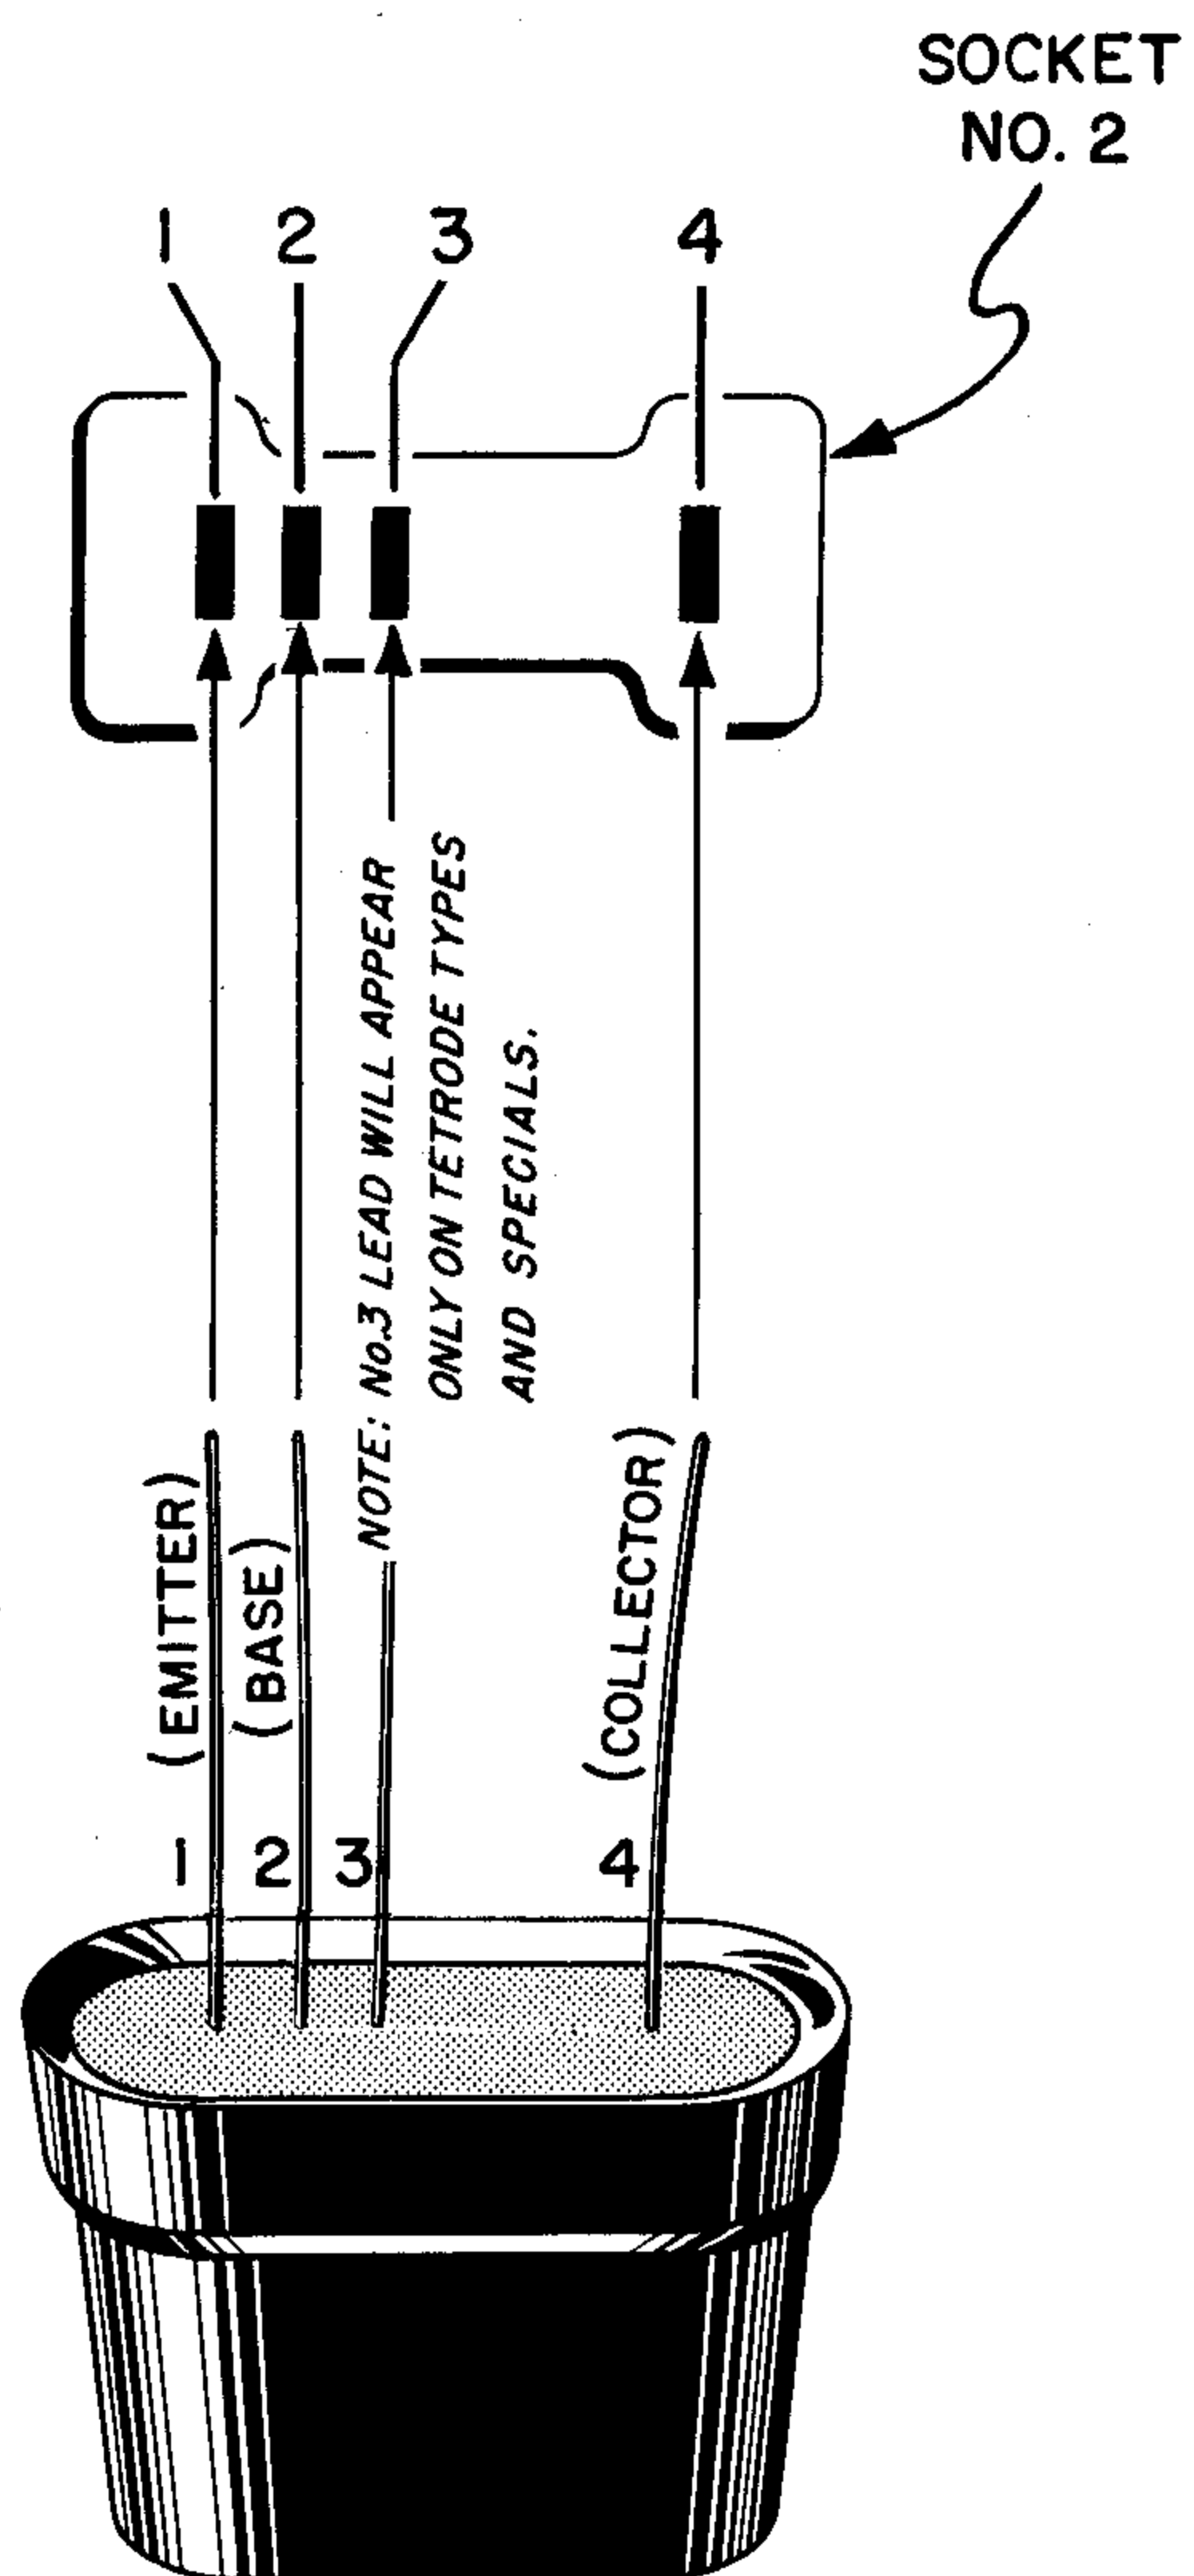

FIG. 3 PLUG-IN TYPE
- Step 5. Plug the transistor into the appropriate socket, or use the Adapter Cable if the transistor type cannot be accommodated by either Socket #1 or Socket #2. Note the polarization and identification of the transistor leads as shown on Page 14 or 15. If the transistor to be tested has four terminals and cannot be accommodated by Socket #2, you will use the Adapter Cable and the Alligator Lead emerging from the tool compartment. Figures 3 and 4 are examples of typical transistor connections.